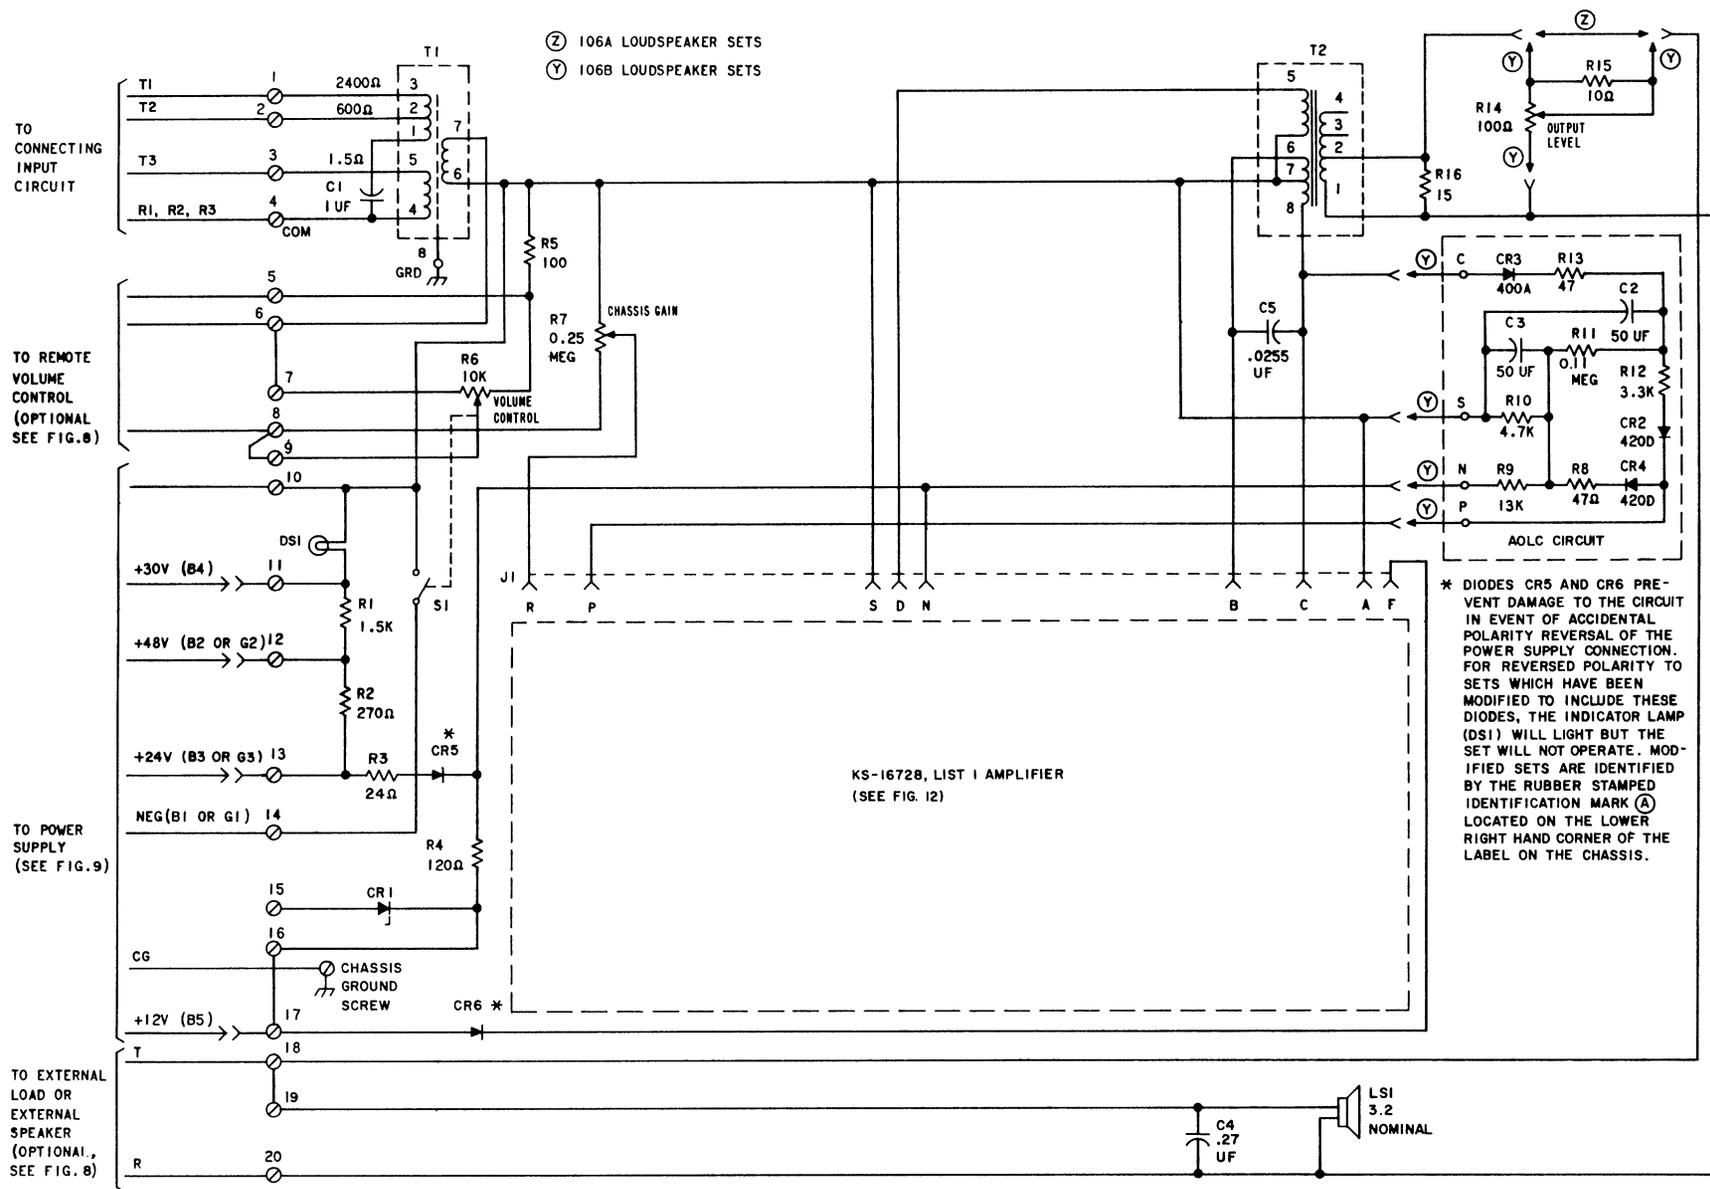

Fig. 10—Schematic—106A (MD) and B (MD) Loudspeaker Sets
4.01 Circuit schematics are provided in Fig. 10, 11, 12, 13, 14.
- (d) **Front Volume Control Arranged to Cut Off All Audio at Minimum Setting (Option N)—106A and B (MD) D and E:** Enable cutoff option by strapping terminals 5 and 10 together (Fig. 10 and 13).
- (e) **Front Volume Control Disabled (Option M, On-Off Switch Normal)—106A and B (MD) D and E:** To disable volume control, remove strap between terminals 8 and 9. Strap together terminals 7 and 8 (Fig. 10 and 13).
WHEN REPLACING A SERIES 4 AMPLIFIER WITH EITHER A SERIES 5 OR A SERIES 6, MAKE THE FOLLOWING CHANGES TO THE LOUDSPEAKER SET CIRCUIT (SEE FIG. 10 AND 11):